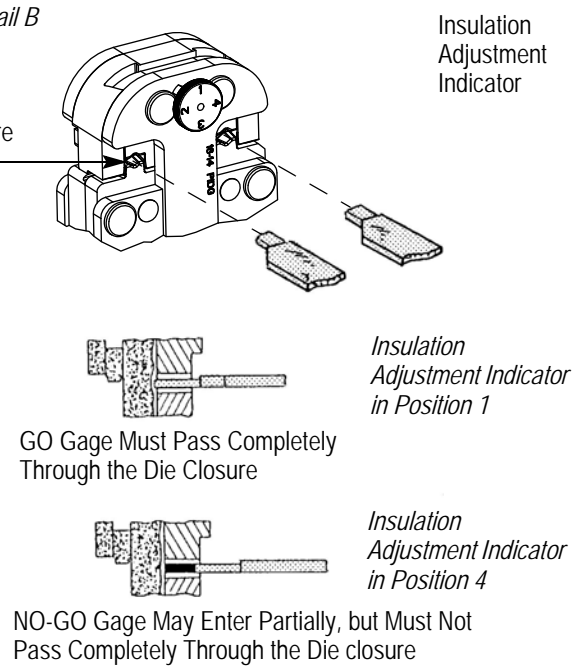

Figure 12
To gage the crimping area(s), refer to Figure 12 and proceed as follows:
3. With wire barrel dies bottomed, inspect the wire barrel crimping chamber using the proper plug gage. Lift the spring-loaded locator and hold gage in straight alignment with the crimping chamber. Carefully try to insert, without forcing, the GO element. See Figure 12, Detail A. The GO element
4. Set insulation adjustment indicator in Position 1. Measure both insulation crimping chambers with the proper GO plug gages in the same manner as Steps 2 and 3. See Figure 12, Detail B.
5. Set insulation adjustment indicator in Position 4. Measure both insulation crimping chambers with the proper NO-GO plug gages in the same manner as Steps 2 and 4. See Figure 12, Detail B.